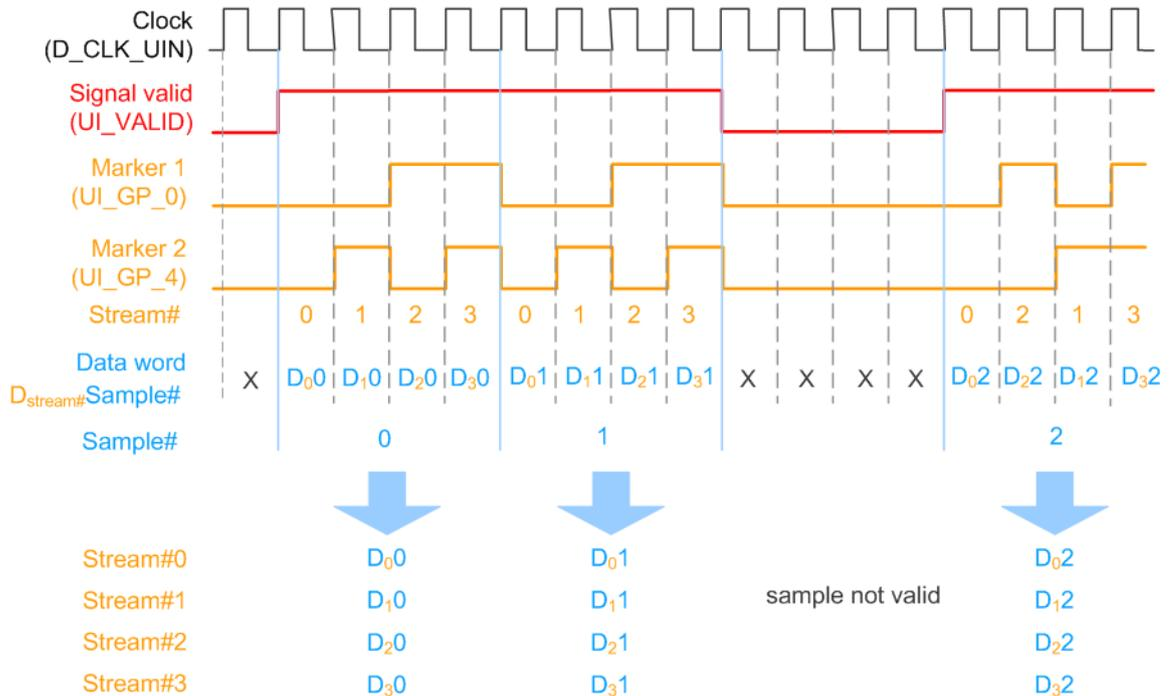

Figure 2-2: Example: Signal at the user interface of the R&S EX-IQ-Box (four multiplexed streams)
If multiplexing is used, the R&S SMW outputs up to four multiplexed streams at one digital I/Q interface (BBMM 1/2 OUT); see Figure 2-2.
- Samples belonging to a stream are indicated by a combination of two marker signals UI_GP_0 and UI_GP_4; (on Figure 2-2 data samples are indicated as $D_{\text{stream\#}}\text{Sample\#}$)
- Samples order can vary, see the third sample on Figure 2-2
The Figure 2-2 shows the multiplexed signal at the user interface of the R&S EX-IQ-Box.